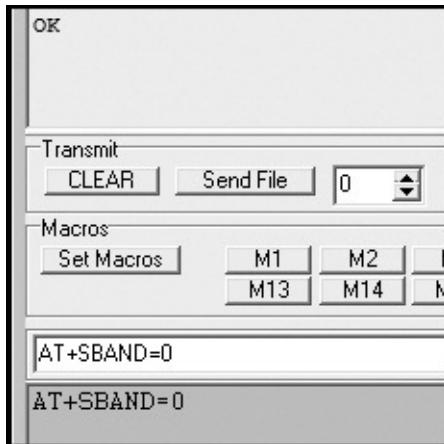

Figure 20-6. Successful band change
5. To set the GSM module to the required band, enter the command **AT+SBAND=x**, where *x* is the band number selected from Table 20-1. The shield should return *OK*, as shown in Figure 20-6.